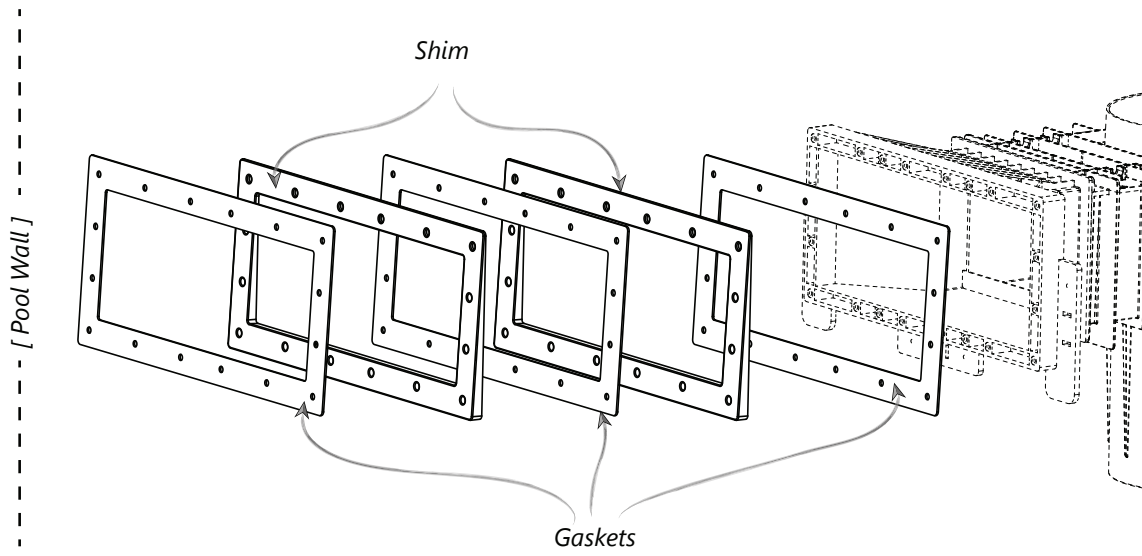

FIGURE 2 - GASKET LOCATIONS
5. A flat gasket must be placed between the pool wall and the first shim, and between each individual shim. (FIGURE 2)